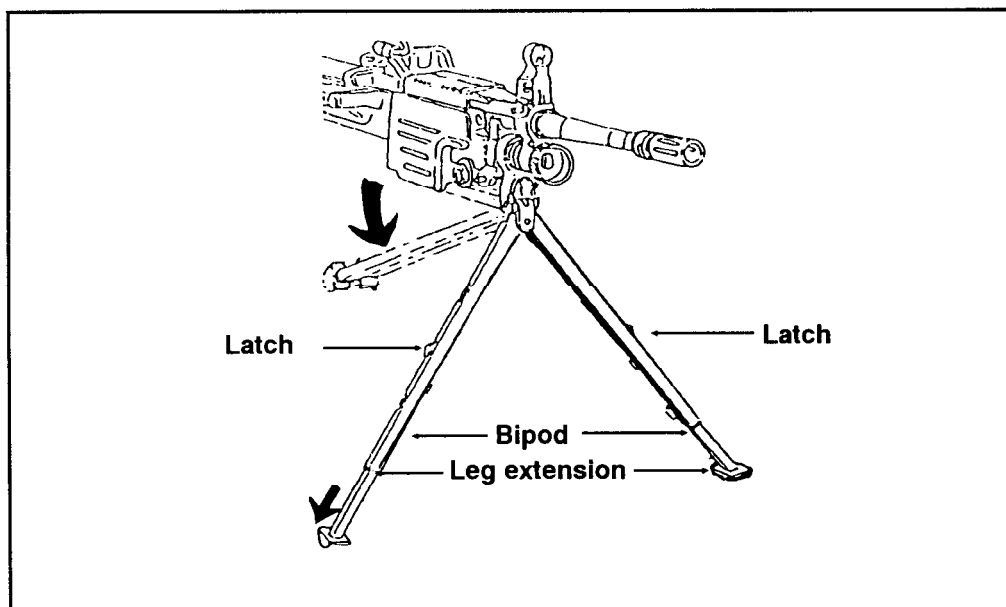

Figure 3-5. Lowering the bipod.
a. To lower the bipod legs, hold the legs together and pull down and away from the handguard. Release the legs so that they lock in the vertical position. To extend the bipod legs, grasp the foot of each leg and pull down. (Figure 3-5).